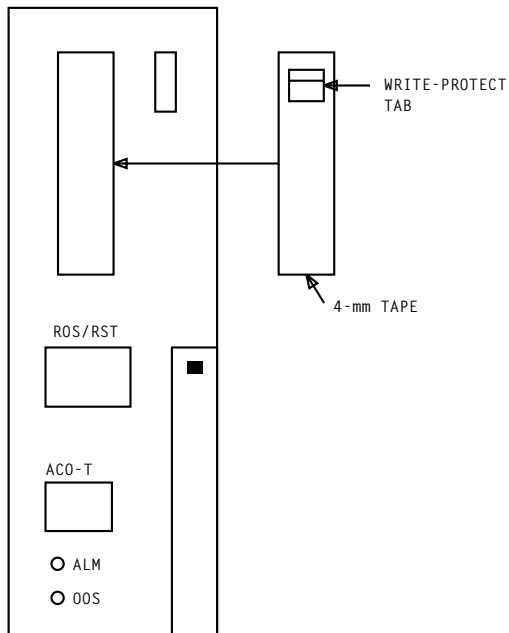

Figure 2. DAT Unit with 4-mm Tape
3. See Figure 2. At an available 3B21D APS DAT unit (EQL 11-124 or 62-124), insert blank or erasable 4-mm tape with write-protect tab in appropriate position.